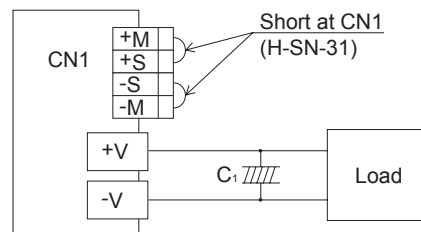
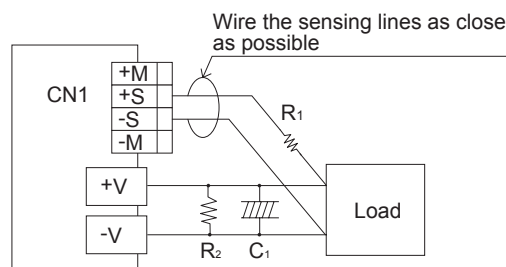

Fig.5.14 When not using remote sensing function
Fig.5.15 When using remote sensing function
- The wire connection when remote sensing is used or not used is shown in Fig. 5.14 - Fig. 5.15.
- ① Wiring must be done carefully. If there is bad connection on the load lines due to loose screws, etc., the load current flows into the sensing lines and the internal circuit of the power supply may be damaged.
- ② Make sure the wires between the load and the power supply are thick enough to keep the line drop less than 0.3V.
- ③ If the sensing wires are long, place C1 and R1 across the load lines.
- ④ Use a twisted pair wire or a shielded wire for the sensing lines.
- ⑤ Do not draw the output current from +M, –M, +S or –S.
- ⑥ The impedance of the wiring or the load may cause the output voltage to oscillate or fluctuate.